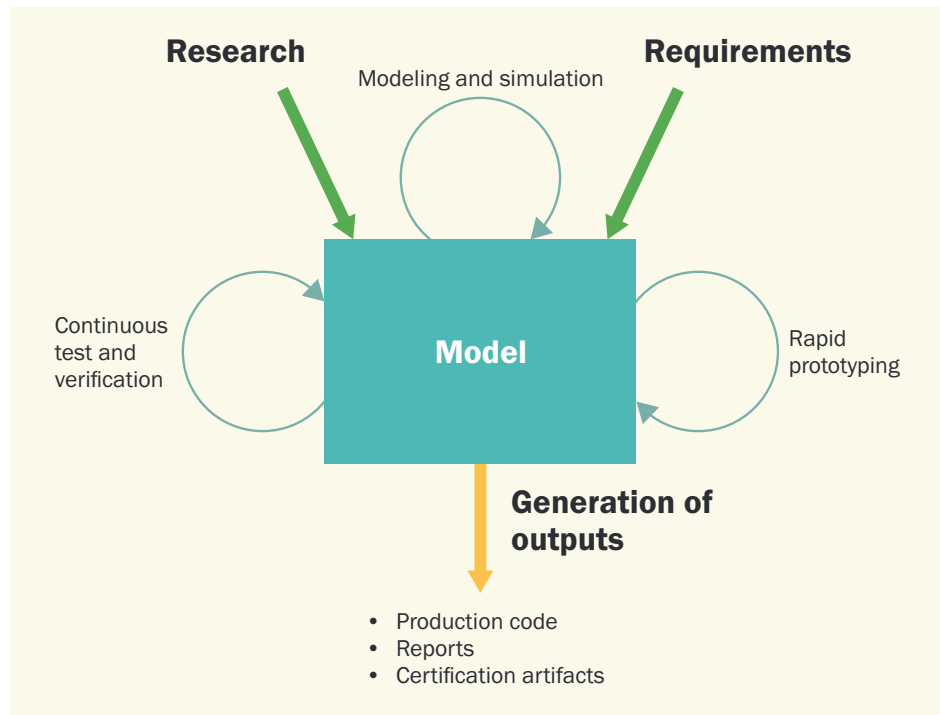

Figure 1.1. Workflow for Model-Based Design.
**M**odel-Based Design is a model-centric approach to the development of control, signal processing, communications, and other dynamic systems. Rather than relying on physical prototypes and textual specifications, Model-Based Design uses a model throughout development. The model includes every component relevant to system behavior—algorithms, control logic, physical components, and intellectual property (IP). Once the model is developed (elaborated), it becomes the source of many outputs, including reports, C code, and HDL code. Model-Based Design enables system-level and component-level design and simulation, automatic code generation, and continuous test and verification (Figure 1.1).